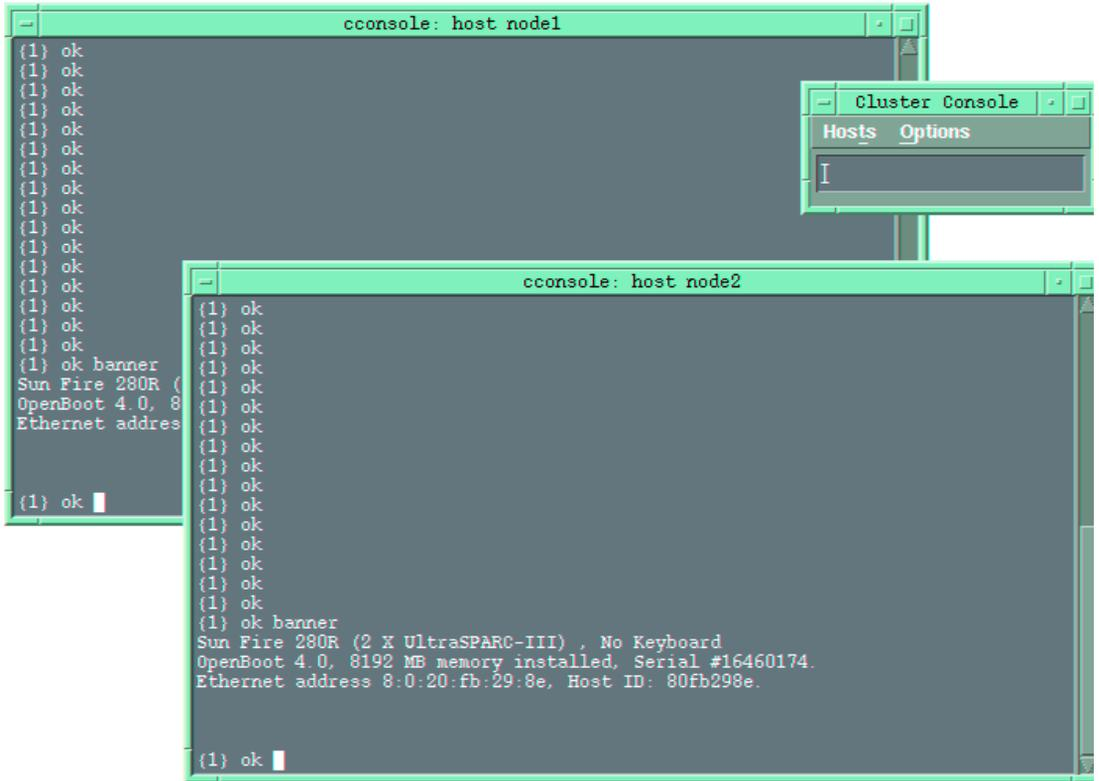

FIGURE 2-5 Cluster Nodes Console Windows
5. In the Cluster Control Panel window, double-click the Cluster Console (`cconsole`) icon to display a Cluster Console window for each cluster node (see FIGURE 2-5).
The console windows for both cluster nodes are grouped (the three windows move in unison—FIGURE 2-5). To ungroup the Cluster Console window from the cluster node console windows, select Options from the Hosts menu (FIGURE 2-6) and deselect the Group Term Windows checkbox.